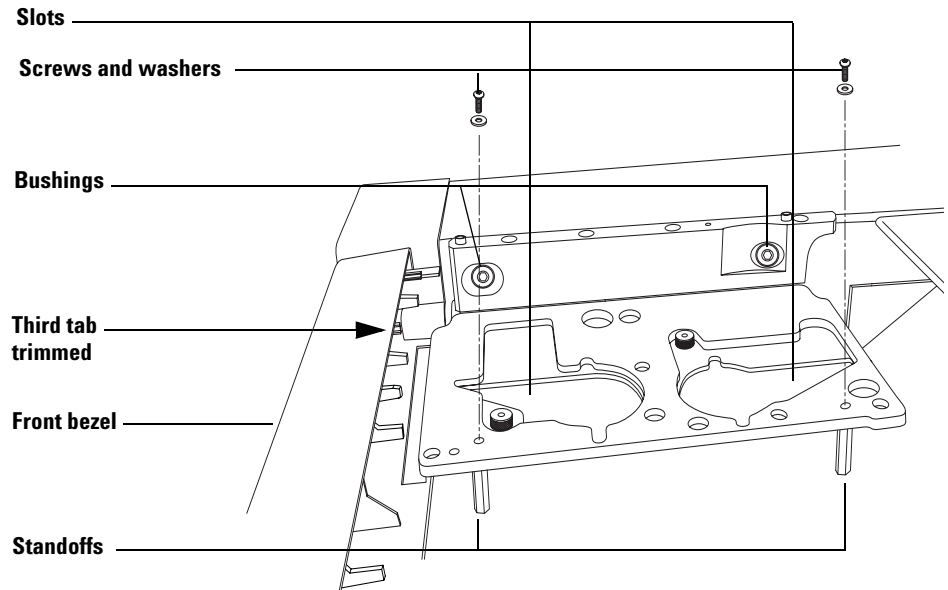

Figure 5 Installing the injector bracket
- 1 Locate the plastic tabs on the back of the front bezel above the oven door. Trim the third tab from the left so that it is flush with the back edge of the bezel (Figure 5).
- 3 If not present, install two standoffs in the top of the GC. (Figure 5)
- 4 If a split/splitless inlet is present, attach the inlet nut and bend the thin tubing down close to the oven top. Examine the new injector bracket. The inlet tubing must be *under* the new bracket and should approach along the slots cut into the mounting bracket (see Figure 5).
- 5 Install the injector bracket by inserting it over the side bushings and resting it on the standoffs (see Figure 5).
- 6 Install two screws and washers through the bracket into the standoffs to loosely hold the bracket (see Figure 5). Do not tighten the screws.